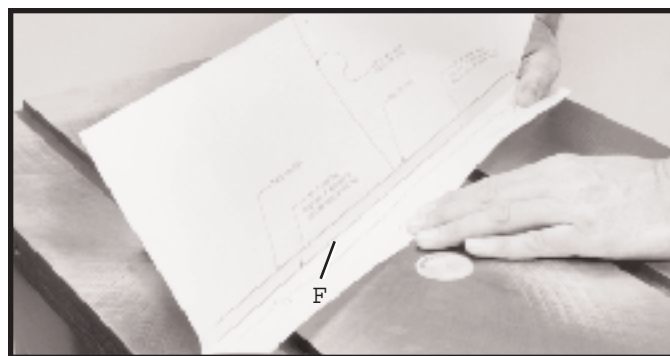

Fig. 24
10. Fold the top portion of the template toward you in the line marked top of guide rail (F), as shown in Fig. 24.